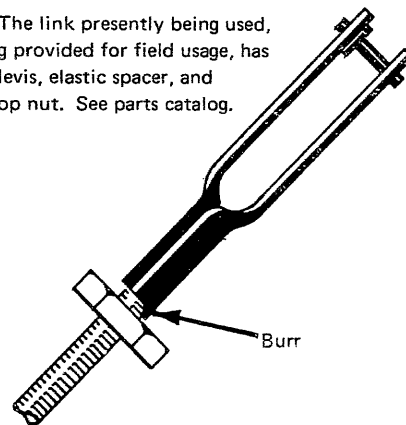

Figure 1-12. Burred Clevis
- Figure 1-12 shows the operational interposer clevis and armature link. Each time one of the operational magnets is energized, the armature pulls on this link, which in turn pulls the interposer from its rest position and activates it. Each one of these links must be adjusted for proper unlatching clearance. A problem has been encountered where the locknut, when